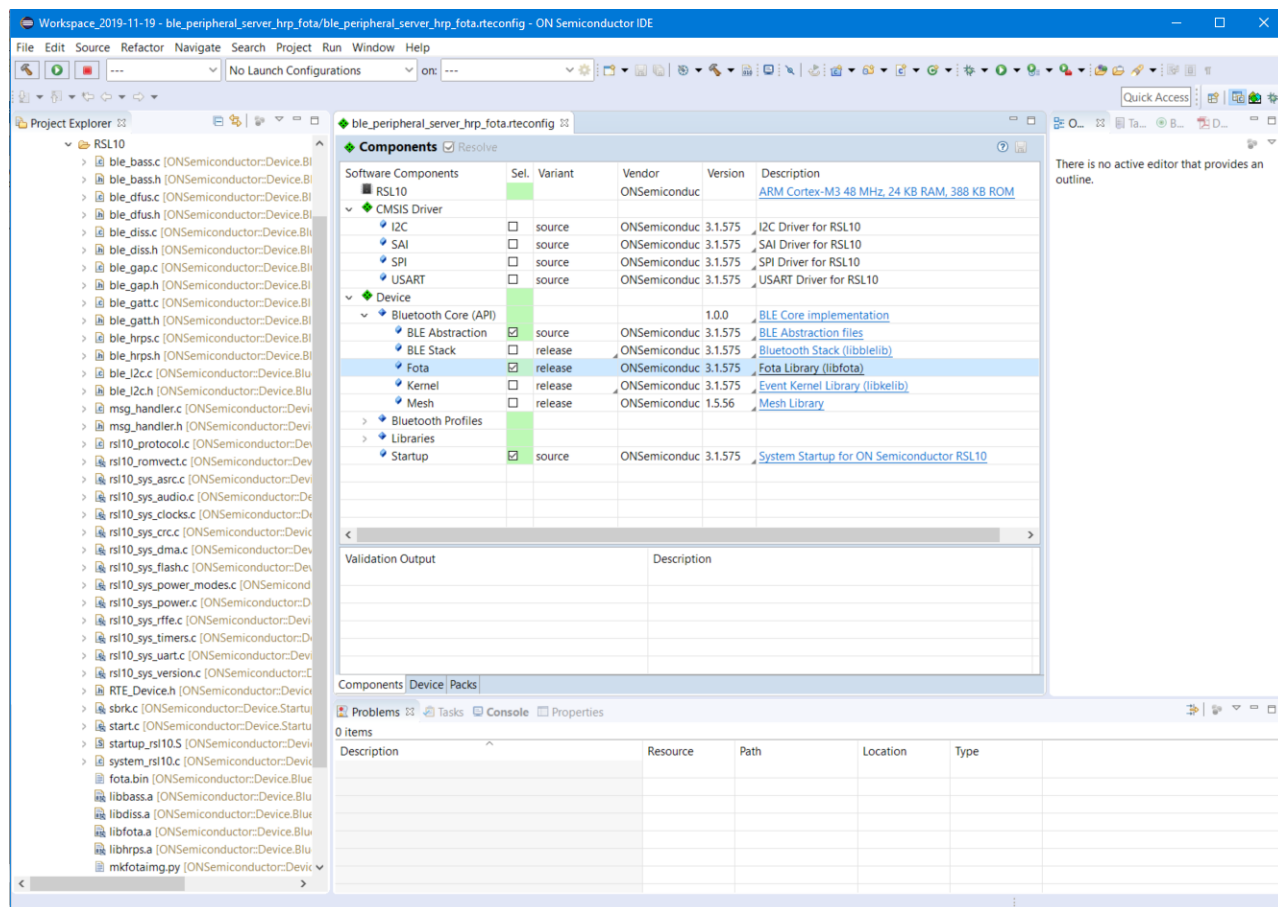

Figure 4. Files in FOTA Sample Project
3. The C/C++ perspective opens and displays your newly copied project. In the **Project Explorer** panel, you can expand your project folder and explore the files inside your project, as seen in the figure "Files in FOTA Sample Project" (Figure 4). On the right side, the *ble_peripheral_server_hrp_fota.rteconfig* file displays the selected software components, including the new component named **Fota**. If you expand **RTE > Device > RSL10**, you